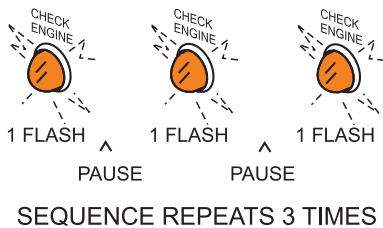

Figure 38. Leader Code
8. Observe check engine warning lamp flashing 3 consecutive times and repeating 3 times. This 1-1-1 sequence is defined as the leader code (Figure 38).